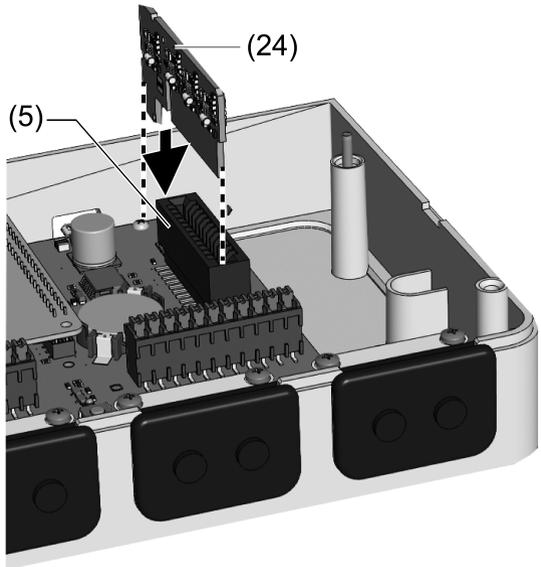

Figure 11: Inserting the interface PWM
- Insert the interface PWM (24) into slot F2 as shown (Figure 11).